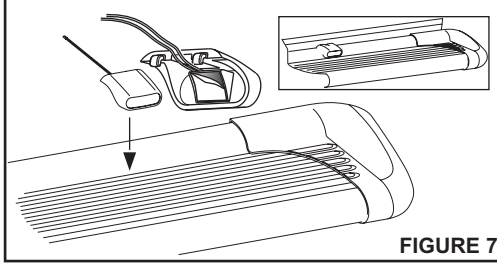
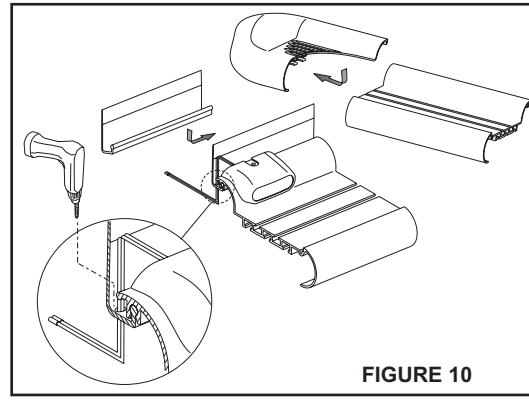

FIGURE 7
FIGURE 10
- STEP 6. For Sure-Grip Running Boards, slide closure strip as shown. Set lights (if purchased) in appropriate location. Attach to Sure-Grip Running Board as shown. **SEE FIGURE 7.** Drill hole through plastic strip and run wires as shown. **SEE FIGURE 10.**